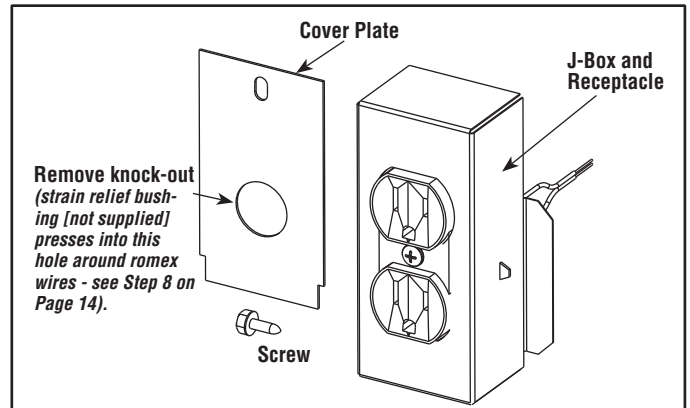

Figure 16 - Junction Box Kit (all models)
Step 2. Remove the rectangular knock-out (for J-Box) on the right side of unit (see **Figure 6** for location). Install the Junction Box and Electrical outlet below the firebox floor into the rectangular opening on the right side cabinet panel where you removed the knock-out (see **Figures 16 and 17**). The Junction Box / Electrical Kit is sold separately (see **Page 15** for ordering information).
- Wires will need to be passed through the hole shown in **Figure 16**.
- An approved strain relief bushing (not supplied with the kit), is required to restrain the wires (see **Figure 16**).
Step 7. Locate the J-Box cover (provided in J-Box Kit). Remove the round knock-out (see **Figure 16**).